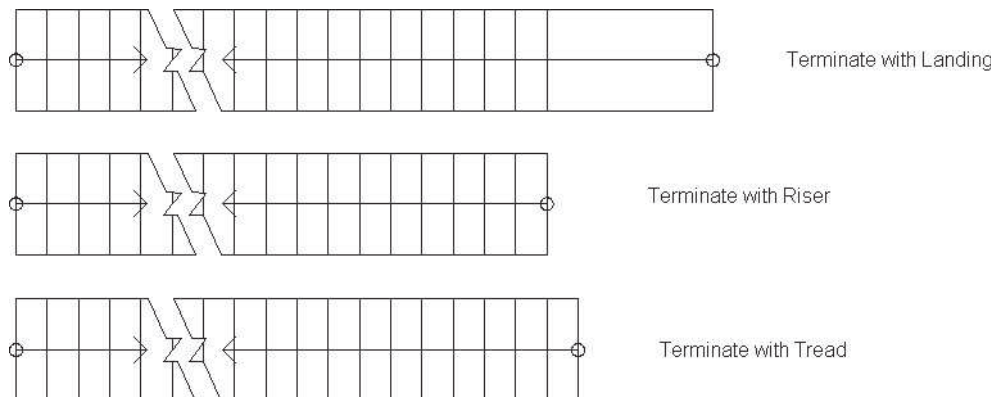

FIGURE 9.4 "Terminate with" options
14. Retain the selection of the straight stair at D. The Terminate with field is available during and after placement of all stair shapes. The Terminate with options are riser, tread, or landing as shown in Figure 9.4.